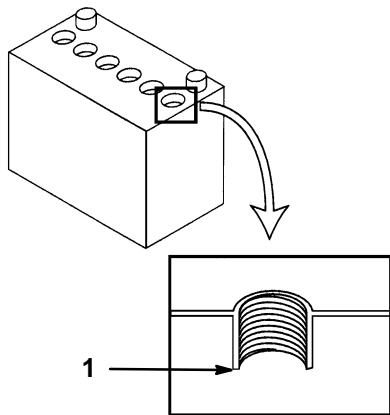

Figure 54
4. Open the cell covers to see into the cells. The electrolyte must be up to the lower part of the tube (Fig. 54). Do not allow the electrolyte to get below the plates.
2. Lift off the filler caps (Fig. 54).
3. Slowly pour distilled water into each battery cell until the level is up to the lower part of the tube (Fig. 54).